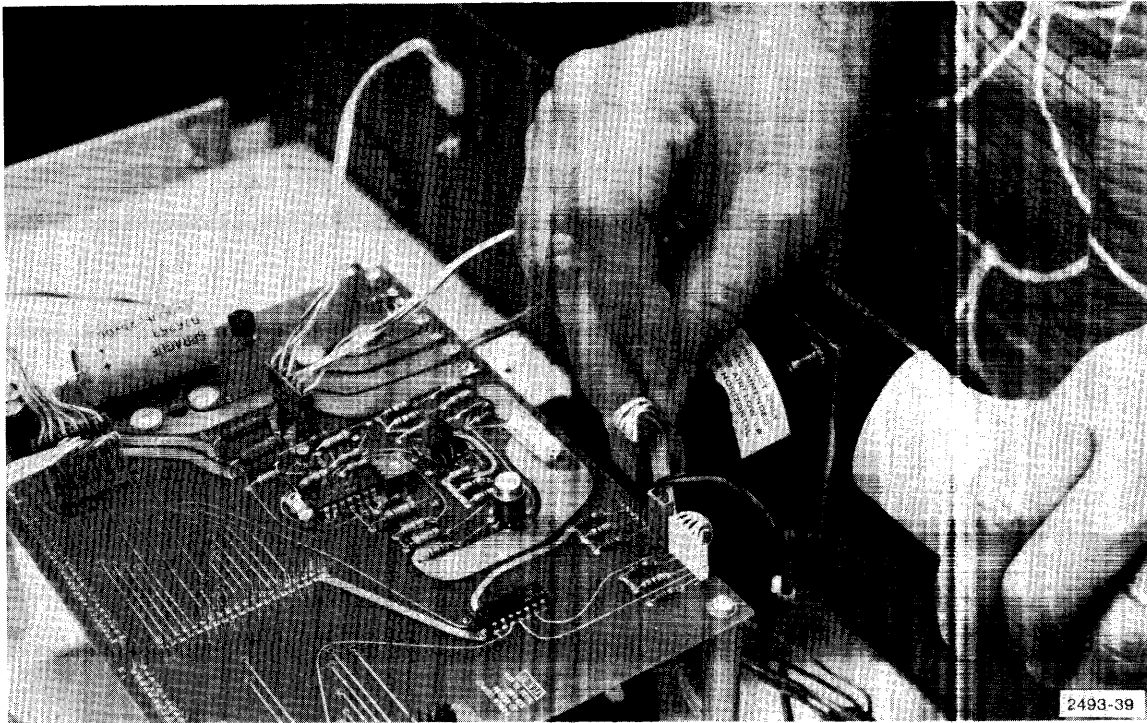

Figure 7-13. Connecting ribbon cable D to J-11.
- w. Plug opposite end of ribbon cable D into J-11 on circuit board (Figure 7-13).